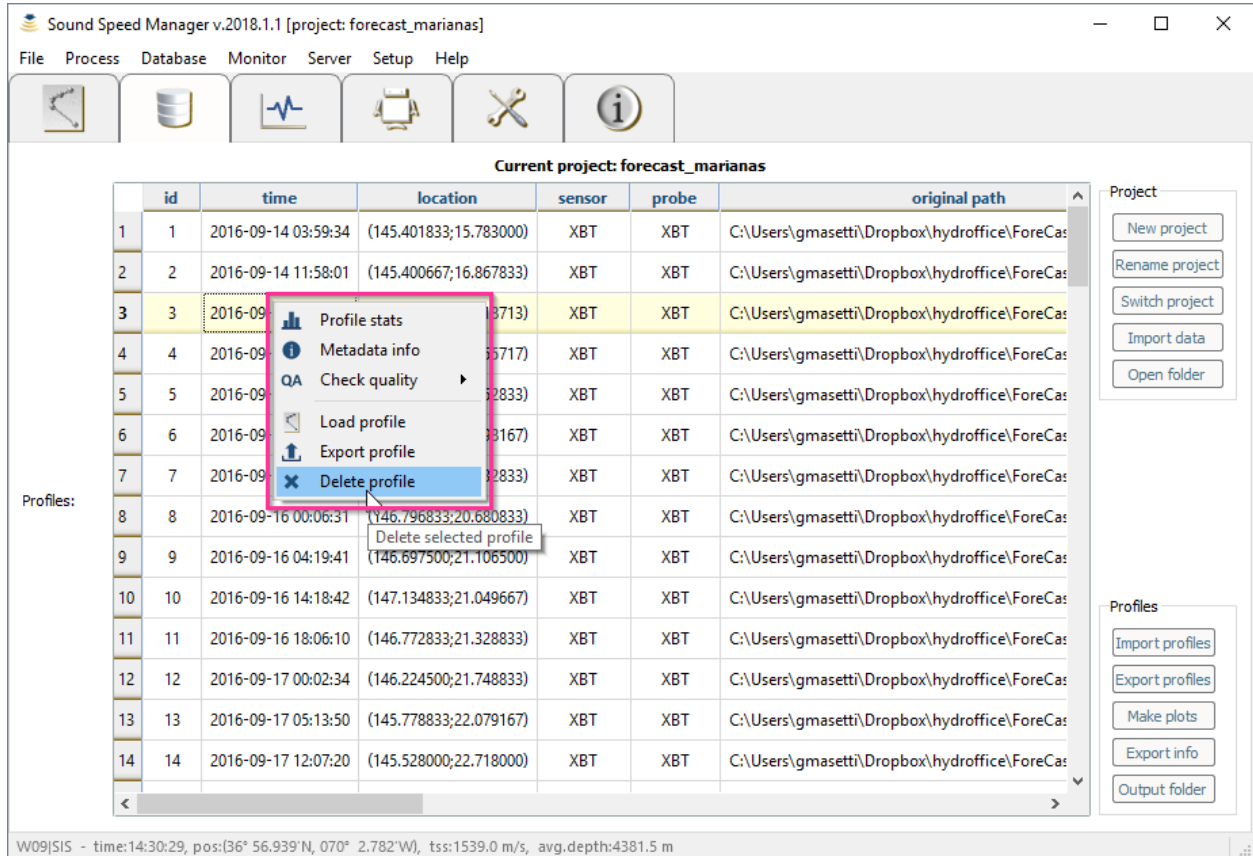

Fig. 2.46: The single-selection context menu provides functionalities specific to a single profile.
- Single-profile selection (Fig. 2.46).